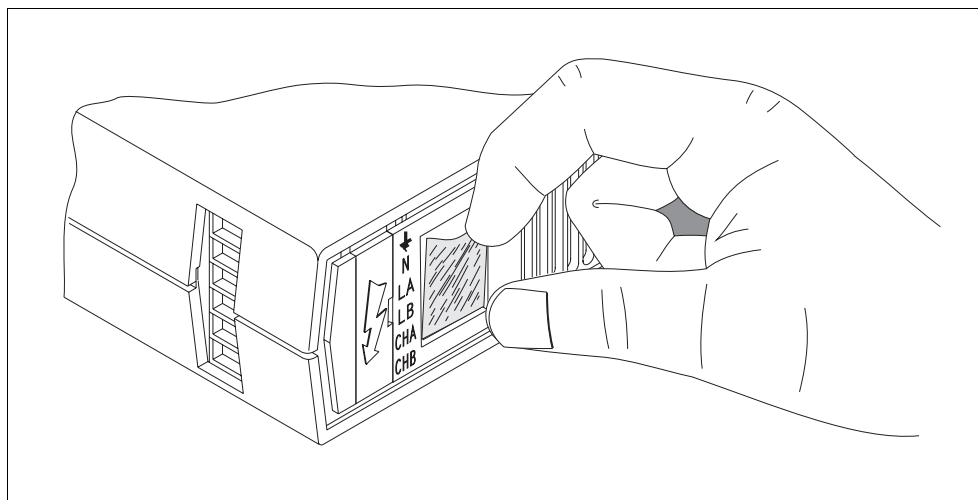

Fig.2-3: Removing the front panel label.
- Write the function or circuit details of both channels on the label in the recessed area of the front panel next to the cover plate. If required, the label may be removed as shown in Fig.2-3.